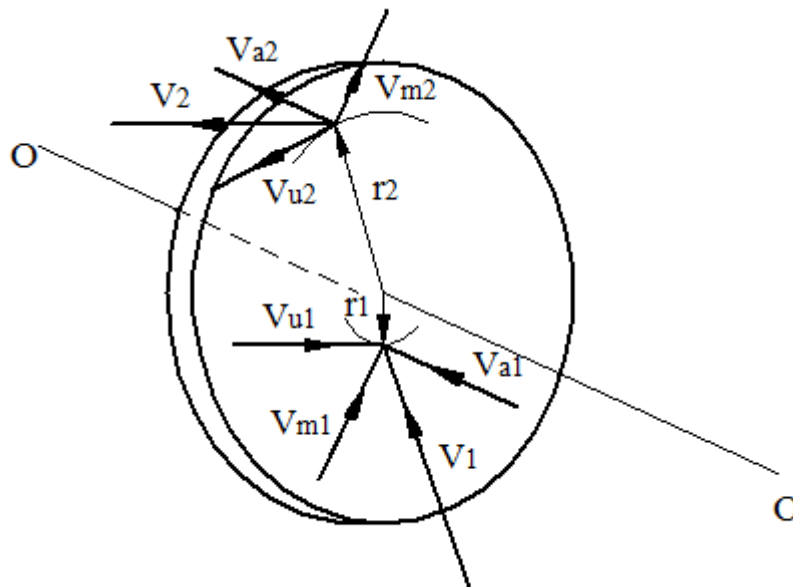

Fig. 3.1 Fluid flow through a rotor of a turbomachine.
**Answer:** The figure 3.1 shows the rotor of a generalized turbomachine with axis of rotation O-O, with an angular velocity  $\omega$ . The fluid enters the rotor at radius  $r_1$  with an absolute velocity  $V_1$  and leaves the rotor at radius  $r_2$  with an absolute velocity  $V_2$ .